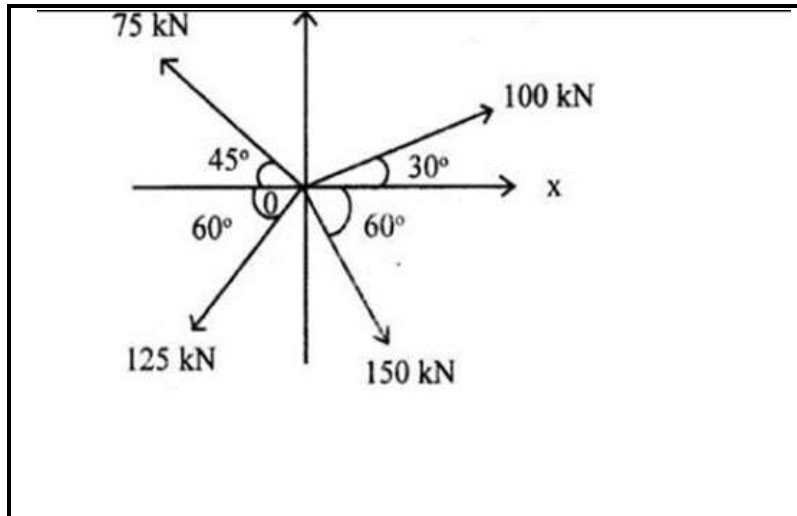

Figure 1.1
1.1 FIGURE 1.1 below shows a system of forces with four concurrent applied forces. Calculate the magnitude and direction of the equilibrant of this system of forces.